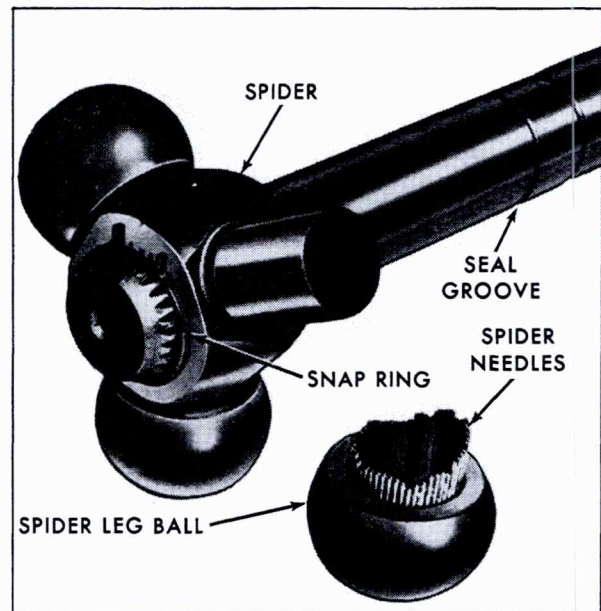

Fig. 3-67 Spider Assembly
**NOTE:** Use extreme care when removing spider leg balls to prevent dropping or losing leg ball needle bearings, Fig. 3-67.